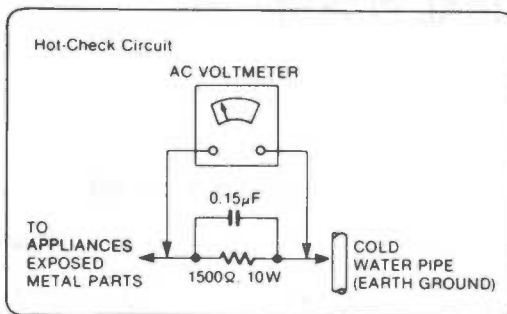

Figure 1
## LEAKAGE CURRENT HOT CHECK (See Figure 1.)
2. Connect a 1.5k $\Omega$ , 10 watts resistor, in parallel with a 0.15 $\mu$ F capacitor, between each exposed metallic part on the set and a good earth ground such as a water pipe, as shown in Figure 1.